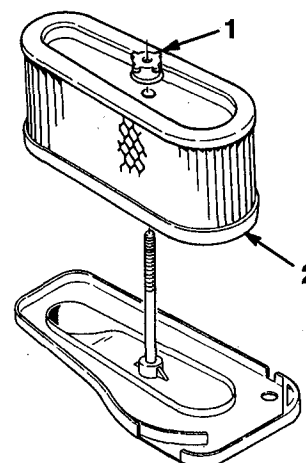

Figure 30
5. Unscrew the rubber nut and remove the paper element (Fig. 30).
2. Slide the air cleaner assembly onto the long rod. Now screw the rubber nut finger-tight against the air cleaner (Fig. 30).